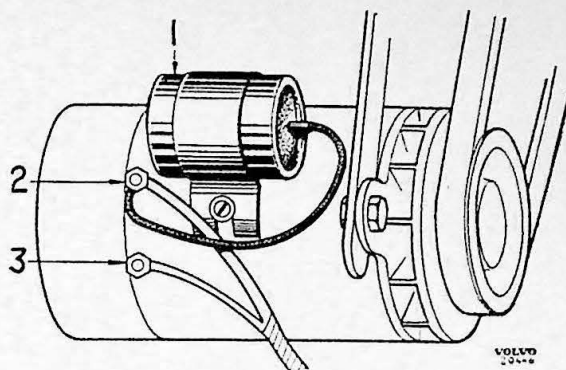

Fig. 8.
2. A condenser (1, Fig. 8) of about 3 micro-